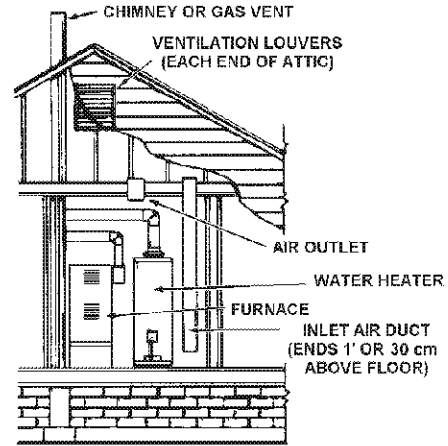

FIGURE 12.
- When directly communicating with the outdoors, each opening shall have a minimum free area of 1 square inch per 4,000 Btu per hour (5.5 cm²/kW) of total input rating of all equipment in the enclosure, see Figure 12.
- When communicating with the outdoors through vertical ducts, each opening shall have a minimum free area of 1 square inch per 4,000 BTU per hour (5.5 cm²/kW) of total input rating of all equipment in the enclosure, see Figure 12.